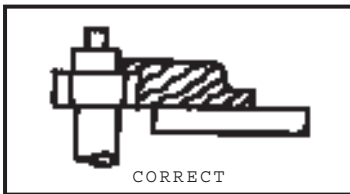
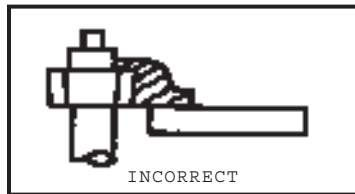

Fig. 3
Fig. 4
8. WHEN SHAPING, the work must be fairly heavy in proportion to the cut being made as shown in Fig. 3. UNDER NO CIRCUMSTANCE should short work of light body be shaped as shown in Fig. 4.